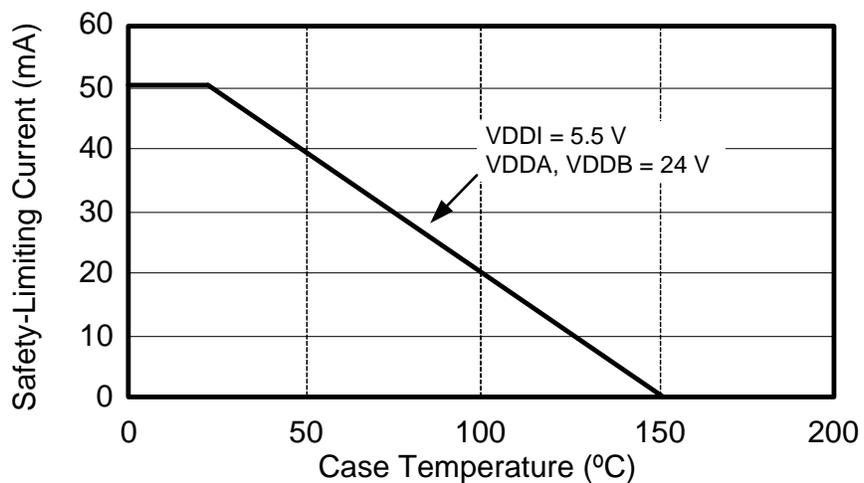

Figure 7. WB SOIC-16, NB SOIC-16, 14 LD LGA Thermal Derating Curve, Dependence of Safety Limiting Values with Case Temperature per DIN EN 60747-5-5
- Maximum value allowed in the event of a failure. Refer to the thermal derating curve in Figures 7 and 8.